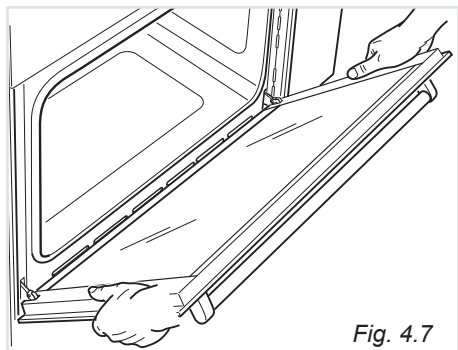

Fig. 4.7
- Hold the door as shown in Fig. 4.7.
- Hold the door as shown in fig. 4.7.